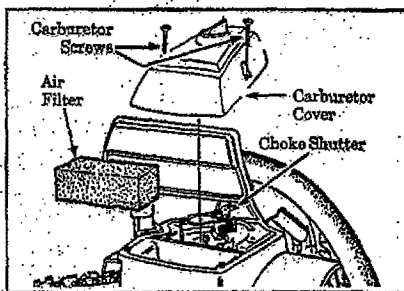

Figure 44
- 2. Remove the carburetor cover screws and carburetor cover. Figure 44.